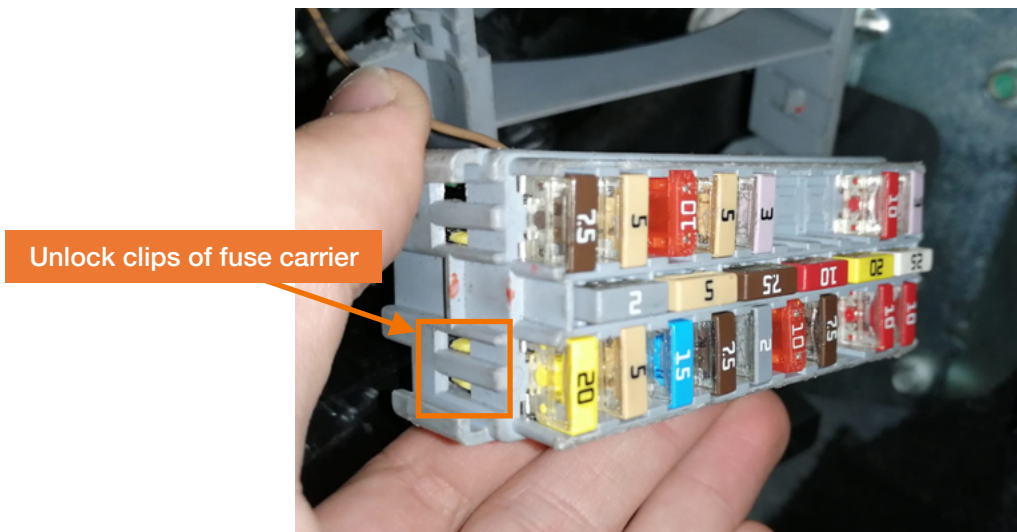

Fig 5. Fuse carrier locking mechanism
4. Put the pin of the wiring loom (32) in the port marked in Fig. 5 from the rear.